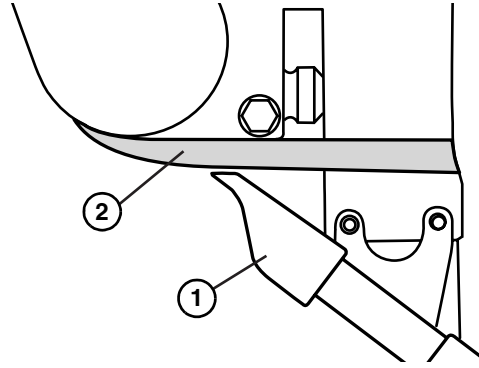

Figure 27
Apply minimal pressure between the scraper (Figure 27, item 1) and the belt (Figure 27, item 2).